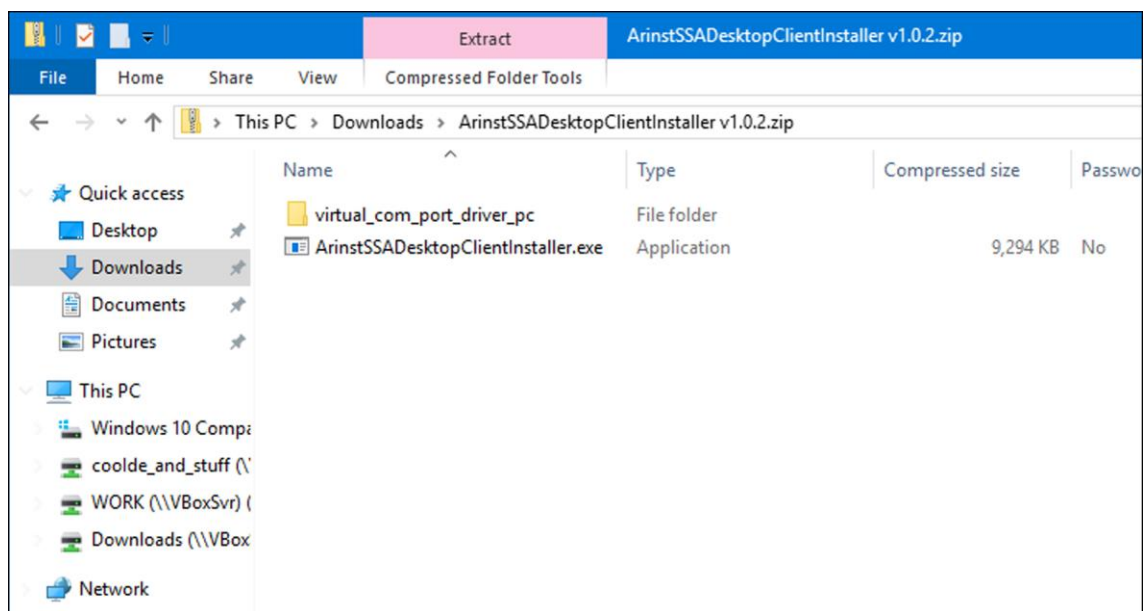

Figure A3 - Unzipped archive file
2.3. Enter the directory into which the compressed (archive) file was uploaded and unzip it with the help of archiving programs (Figure A3).